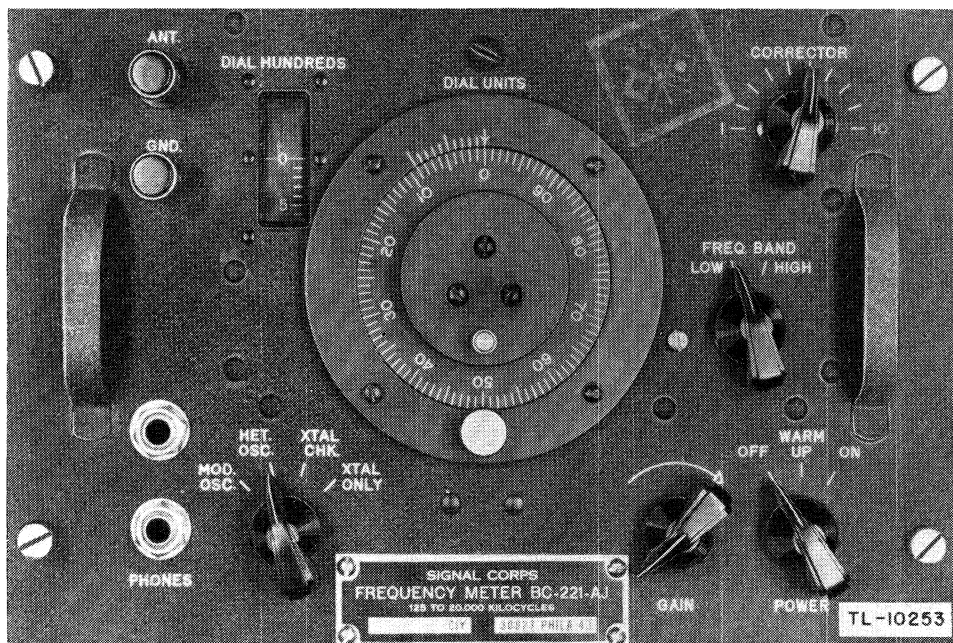

Figure 42. Frequency meter controls.
- (1) Frequency Meter BC-221-(*) may be used as a reliable signal source for tuning Radio Receiver R-336/GRC-26. Set the frequency meter to the desired frequency by the methods described in TM 11-300. Disconnect Pick-up Antenna AT-137/MRC-2 from the frequency meter. Connect one end of a length of wire to the ANT. binding post (fig. 42) of the frequency meter and loosely couple the other end of the same wire to the ALT. SIG. ANT. binding post of the receiver to be tuned. Loose coupling is obtained by winding the insulated wire around the posts without making contact between an uninsulated part of the wire and the ALT. SIG. ANT. binding post.